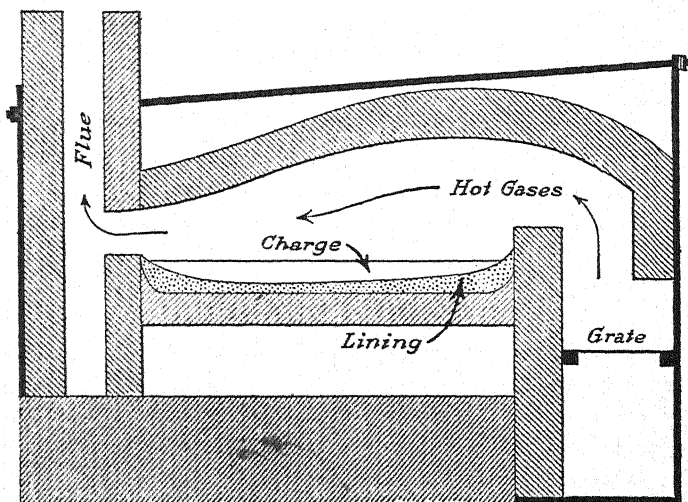

FIG. 301. — Reverberatory furnace. The hot gases are deflected downward upon the charge.
**528. How Wrought Iron Is Made.** Since wrought iron contains less carbon than cast iron, it is made by heating cast iron in a reverberatory furnace lined with iron oxide. (See Fig. 301.) The fuel is burned on a fore-hearth, and the hot flames and gases are *reflected* down upon the charge in the furnace. The impurities that were present in the cast iron are gradually oxidized and disappear as gaseous products, or they may combine with the basic material with which the furnace is lined. The carbon in the cast iron unites with the oxygen from the iron oxide and escapes into the air as carbon dioxide or monoxide. As the heating proceeds, the molten mass becomes pasty, because pure iron